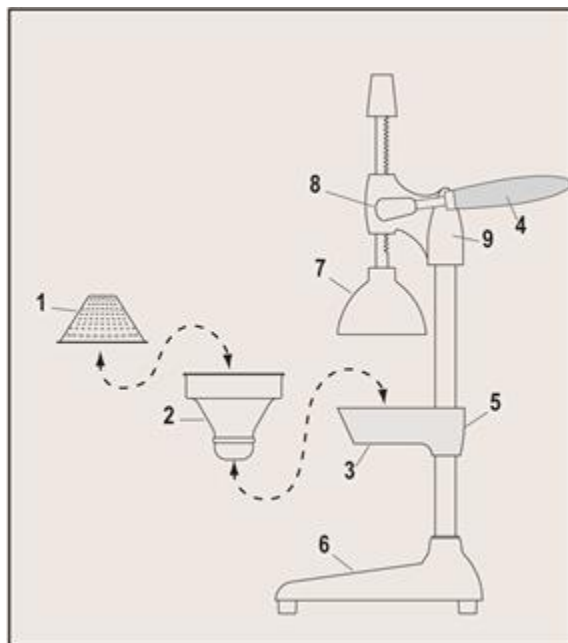
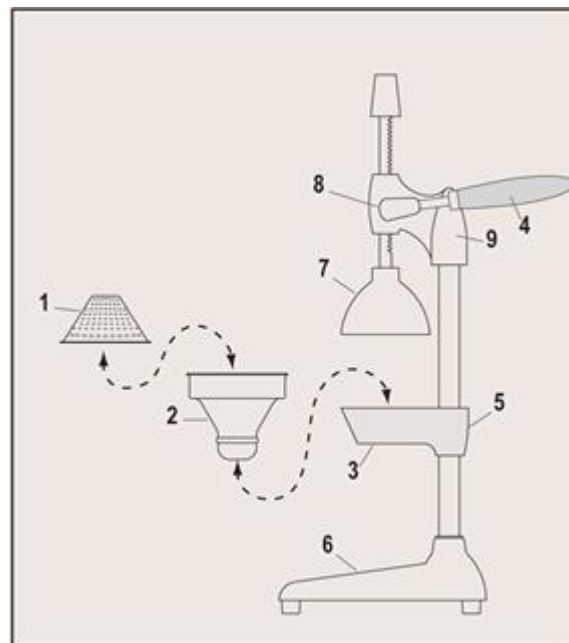

Figure 1. Juice Extractor Components and Parts
Figure 2. Juice Extractor Assembled (Show with Vessel)
1. Slide the strainer (1) into the funnel (2) rotating to align the keyway if necessary. See Figure 1.
2. Set the strainer (1) and the funnel (2) into the funnel holder (3). The handle (4) may need to be rotated to do this.
3. Place a vessel between the legs of the base (6) under the funnel (2) to catch the extracted juice.
4. The juice extractor is now ready for use. See Figure 2.
SPARE PARTS LIST - JUICE EXTRACTOR 47704 (SEE FIGURE 1)